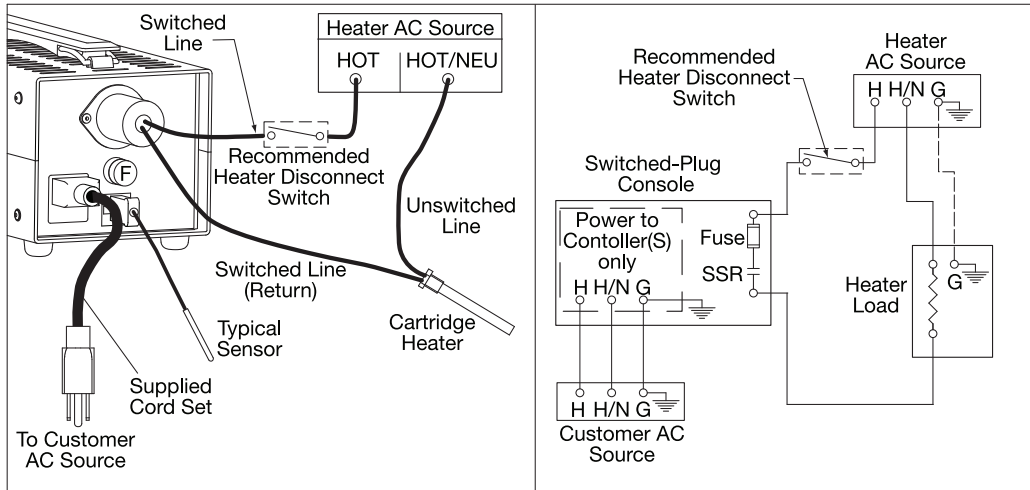

Figure 1. Application Wiring Example (single-zone shown)
2. Power for your heater(s) is NOT sourced directly through the console line cord. Refer to **Figure 1. Application Wiring Example** on the next page. The heater(s) must be wired to their own independent power circuit by a qualified electrician. **Do not use the pin marked “W”. This is not a grounding pin.**